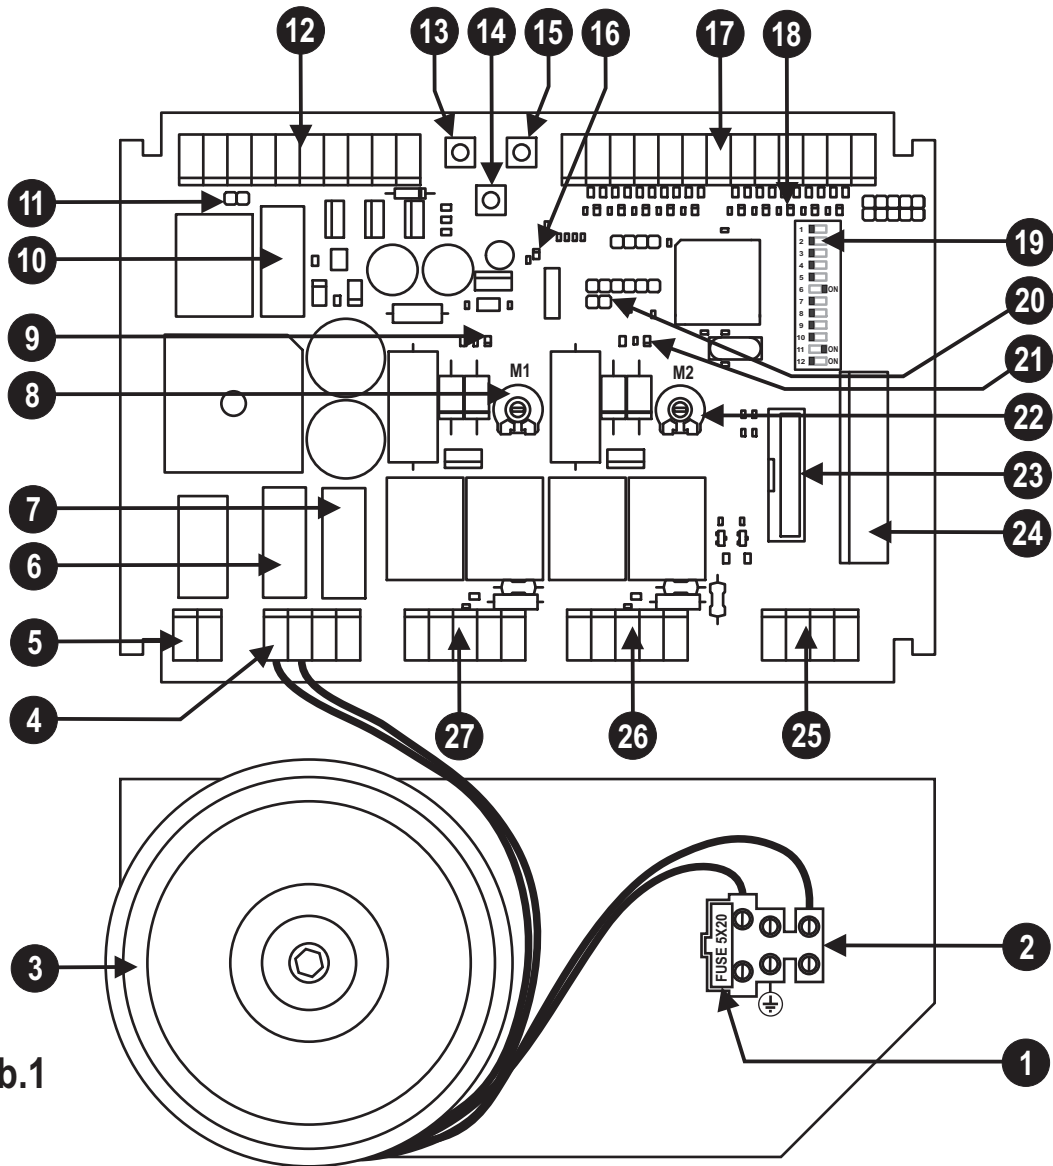

Abb.1
- Insert the receiver in the connector (detail 23 of fig. 1)
### BESCHREIBUNG DER VERSCHIEDENEN TEILE (Abb. 1)